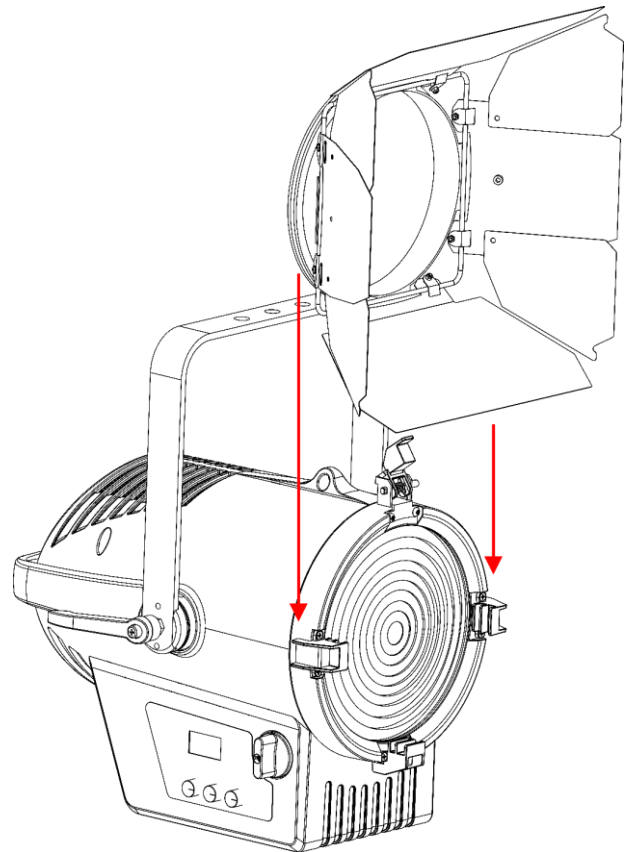

Fig. 11
- 02) Insert the barndoor as shown in Fig. 11.